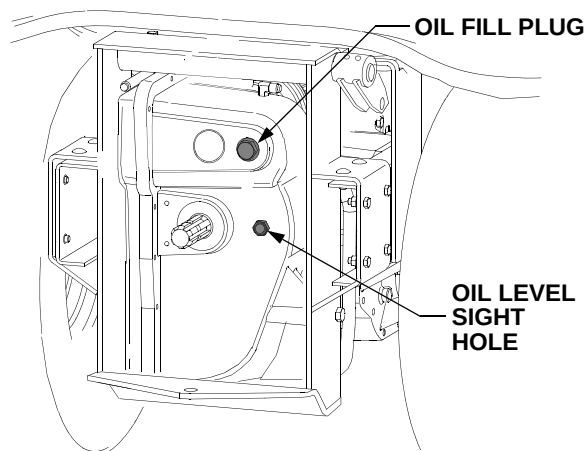
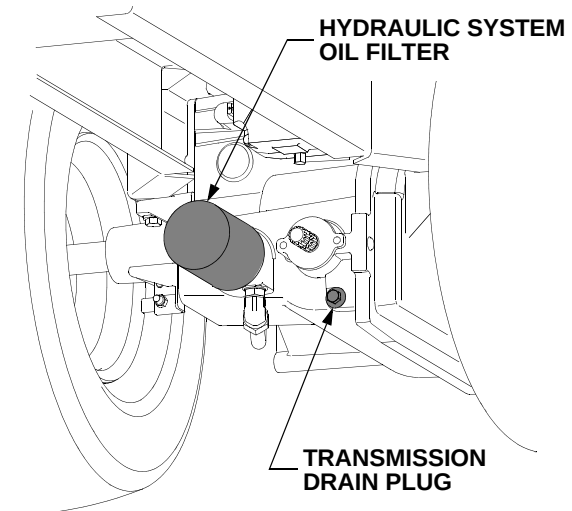

Figure 38
Figure 40
The oil level sight glass is located in the rear of the transmission housing, just to the right of the rear PTO shaft. Refer to Figure 38.
- Locate the oil fill plug on the upper right of the rear of the transmission housing. See Figure 38.
- Position a suitable container below the hydraulic system filter. Refer to Figure 40
- Clean the area around the transmission oil fill plug to prevent debris from entering the transmission (Refer to Figure 38) and remove the plug.
- Clean the area around the transmission drain plug and the oil fill plug to prevent debris from entering the transmission. Refer to Figure 38 and Figure 40.
- Remove the oil fill plug to help vent the transmission, then remove the drain plug and allow the transmission oil to drain into the container(s). Reinstall the drain plug after draining the oil. Refer to Figure 38 and Figure 40.